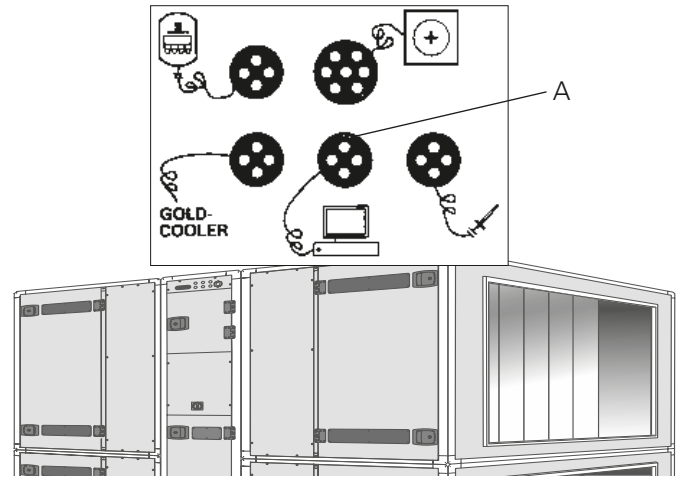

Fig. 8
Connect the 24 V AC supply voltage to terminals Vin+ (24) and GND (23). Supply voltage can be obtained from the control unit of the air handling unit, see below and Fig. 8.
Connect the network from the GOLDen GATE communication unit to the control unit of the GOLD unit. Use the communication cable supplied. The communication cable has a 4-pin round quick connector and a 9-pin D-subconnector. Connect between Connection A in Fig. 8 and Item 2 in Fig. 1.